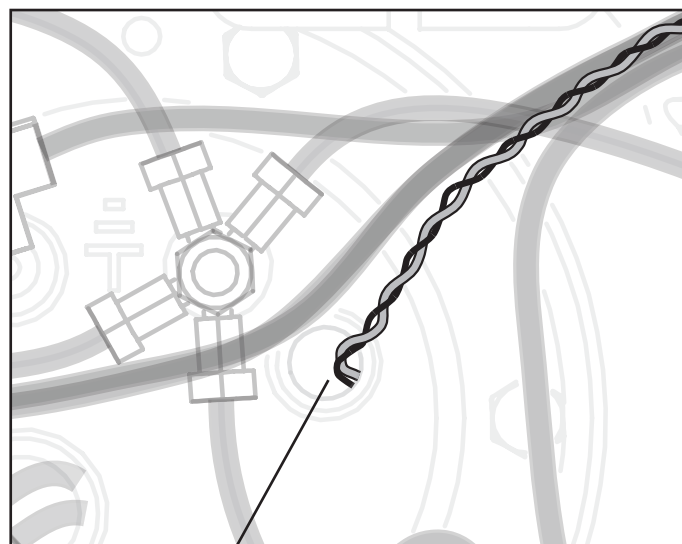

Figure 22: Thermostat removal
- ▶ Remove the thermistor out of its stat tube, smallest, see figure 22.